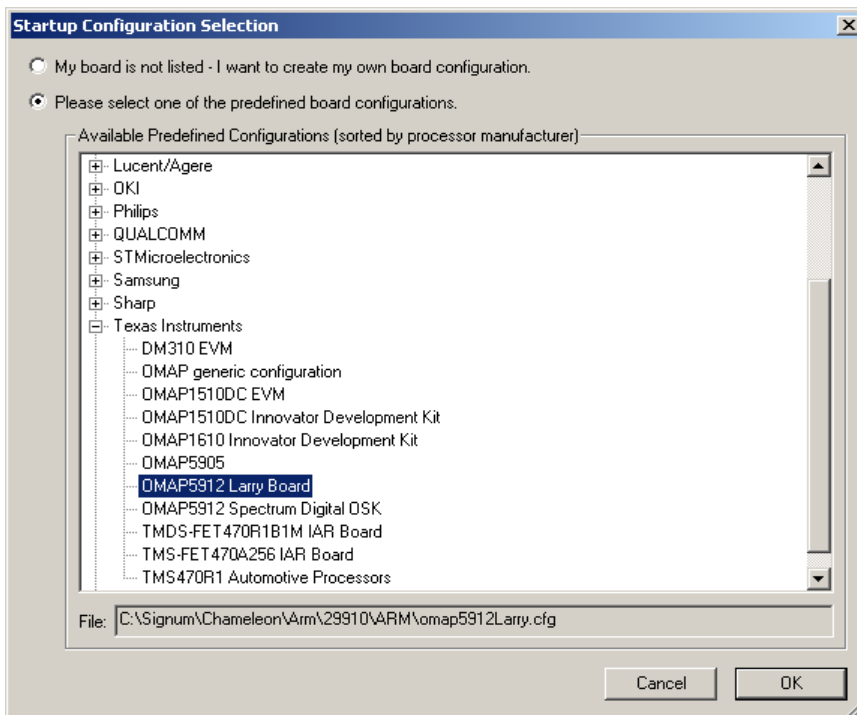

FIGURE 61 Selecting the TI OMAP5912 Larry board..
2. In the Startup Configuration Selection window, under Texas Instruments, select the OMAP5912 Larry Board and click **OK** (Figure 61).